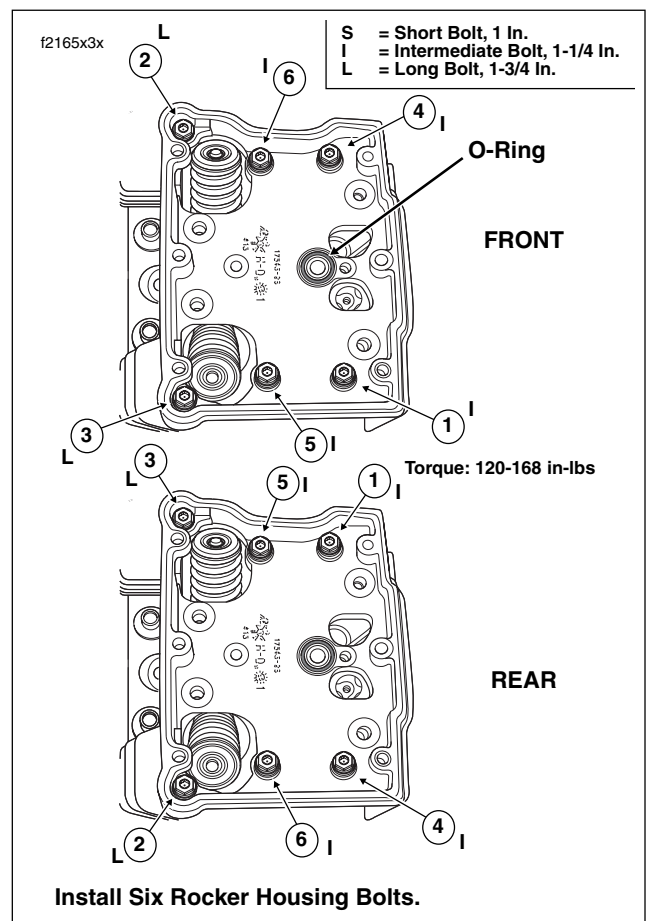

Figure 3-36. Rocker Housing Torque Sequence and Bolt Size
23. Apply a small dab of Loctite Medium Strength Threadlocker 243 (blue) to threads of six rocker housing bolts. Start the rocker housing bolts, two long bolts on the left side of the engine, four intermediate bolts in the interior. Alternately tighten the bolts to 120-168 **in-lbs** (13.6-18.9 Nm) in the pattern shown in Figure 3-36.
24. Install **new** O-ring in groove around breather baffle hole in rocker housing. Apply a thin film of clean H-D 20W50 engine oil to O-ring before installation. See Figure 3-36.